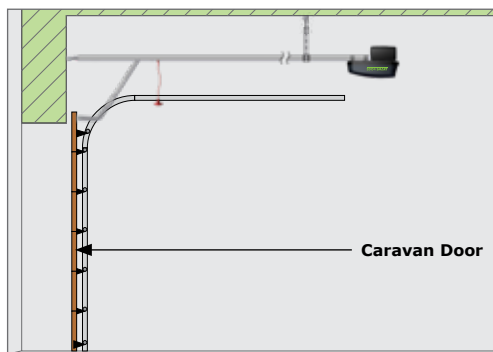

FIGURE 5
- The drive rail must be perpendicular to the door as shown in Figure 5